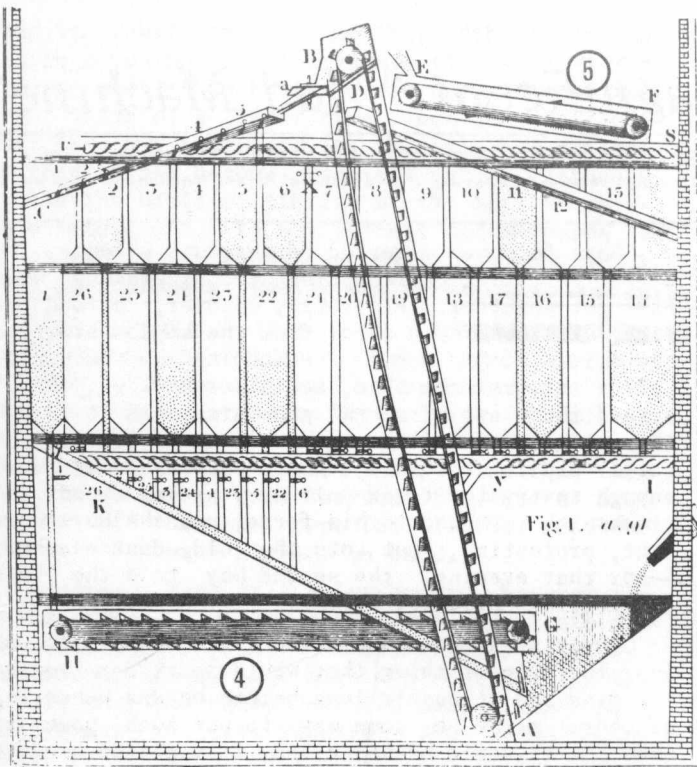

Fig. 1
Figs. 1 & 2. Two plates from Evans' *The Young Mill-Wright & Miller's Guide*, showing (1) The Hopperboy, (2) The Conveyor, (3) The Elevator, (4) The Drill, (5) The Descender. This amazing early example of an attempt at automation did everything from weighing incoming grain and unloading a ship, to the final act of filling the barrels with flour.